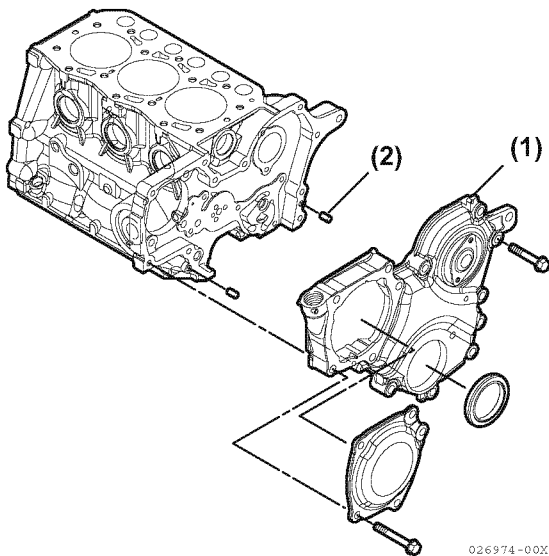

Figure 6-101
1. Apply a continuous bead of ThreeBond Liquid Gasket No. 1212, Yanmar Part No. 977770-01212 to the mounting area of the gear case cover (Figure 6-101, (1)). Be sure to circle the bolt holes.
2. Reinstall the dowels (Figure 6-101, (2)).